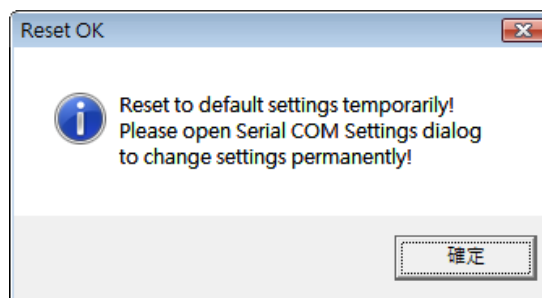

Figure 3-7 Reset to default settings temporarily.
- (1) Connect PC to the RS-232 port of IR-712A and click “Open” button in the utility to open the COM port of PC.
- (2) Click Reset button within 3 seconds after cycling the power of IR-712A.
- (3) A dialog as Fig. 3-7 shows that the resetting to default values is done. Notice that the parameters resetting is temporary. Please go to “IR-712A Basic Settings” interface and click “Set Permanently” button to retain the settings.